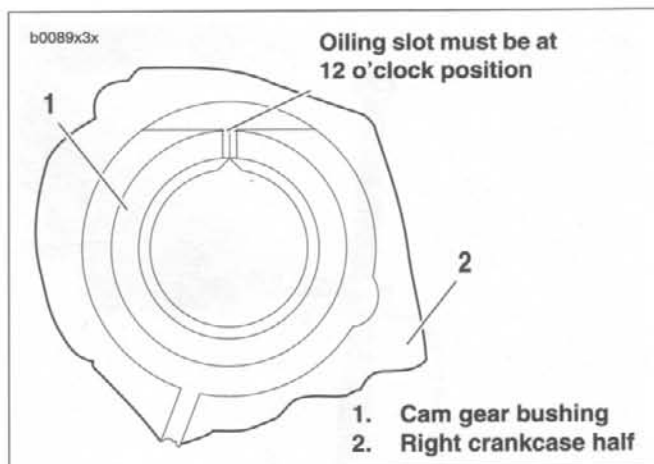

Figure 3-85. Cam Gear Bushing Installed in Crankcase
1. See Figure 3-85. Each cam gear bushing (1), to be installed in right crankcase half (2), must be positioned in crankcase bore with its oiling slot at exact top of bore (12 o'clock position).
1. Separate two halves of crankcase, if not already accomplished. Place right crankcase half on flat surface with gearcase side upward. Bushing to be reamed must be oriented as shown in Figure 3-85.